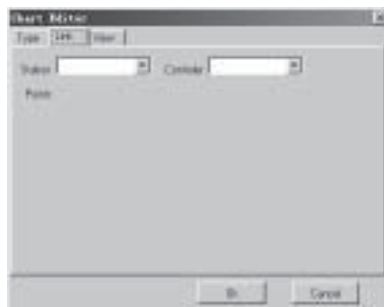

Fig. 4-34 Insert Chart Diagram and Form
1. Select and click the **quick icon**  and then move the mouse to the **drawing interface**, and the dialogue frame, as in Fig. 4-34, will be shown in the system.